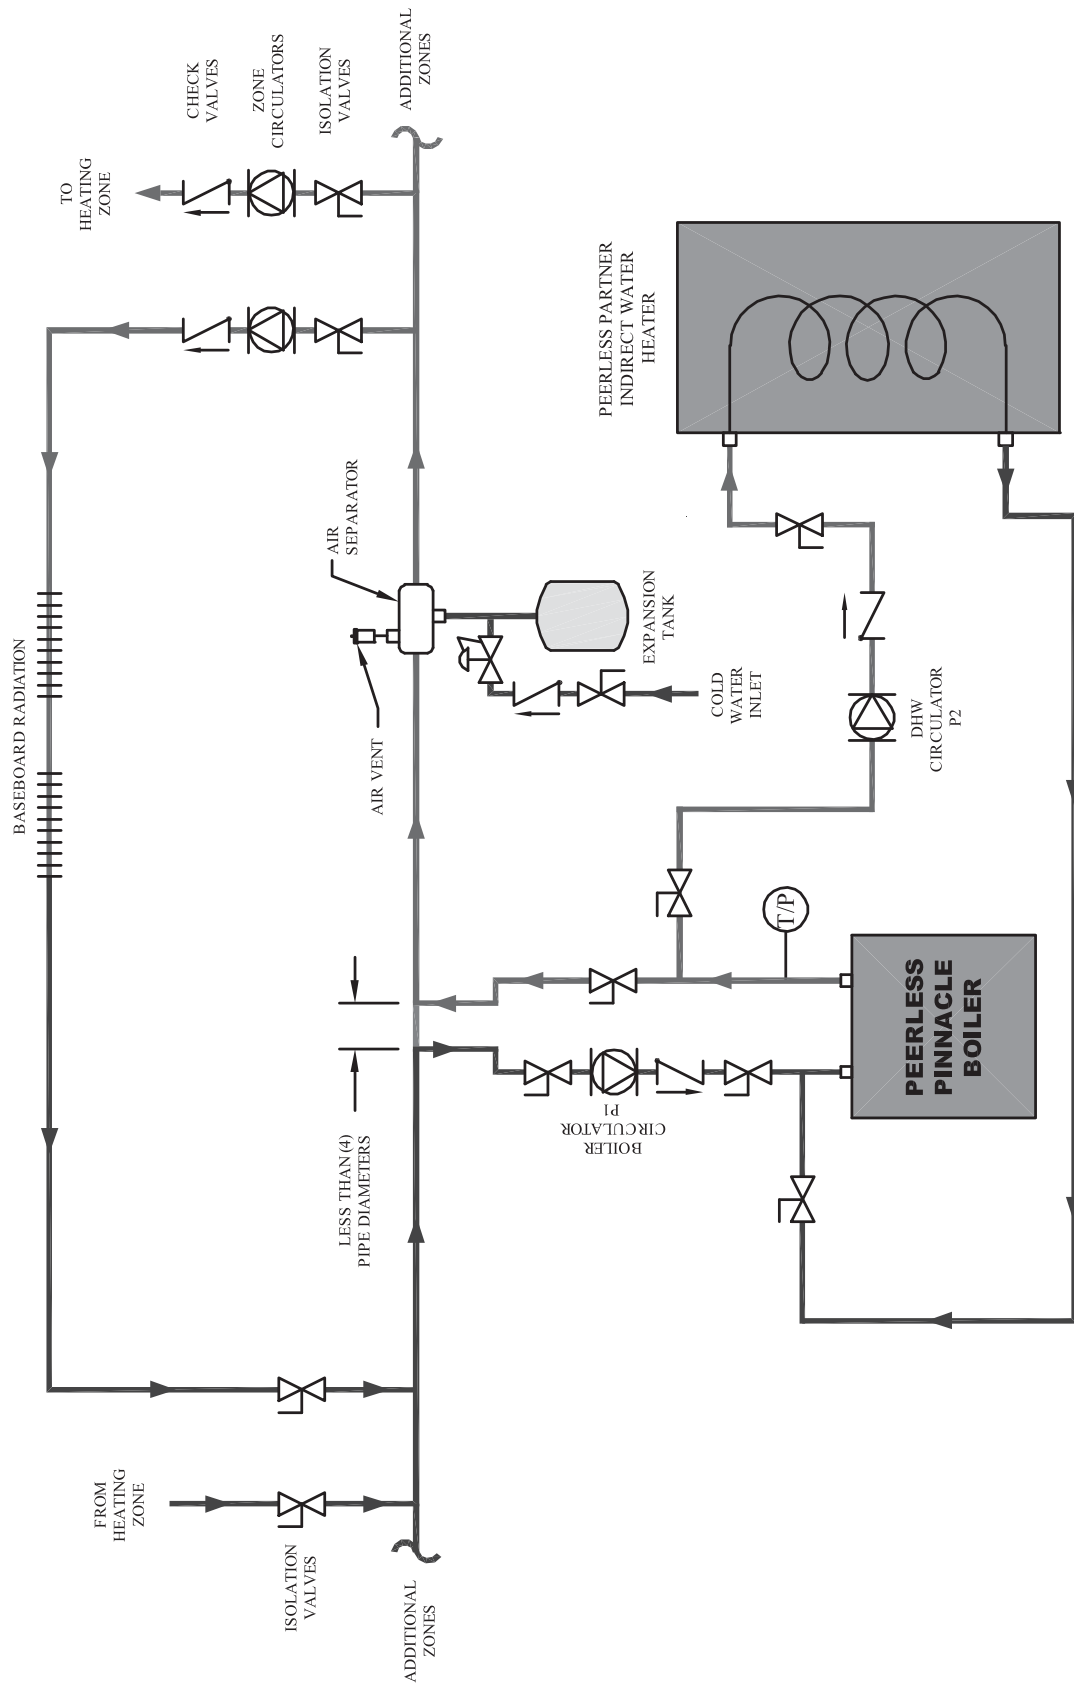

Figure 3.4: One Boiler, Primary/Secondary with two heating zones and a Peerless Partner (Zone Circulators)
2. Figure 3.4 shows a single boiler with an additional zone in which baseboard radiation is the heat load.